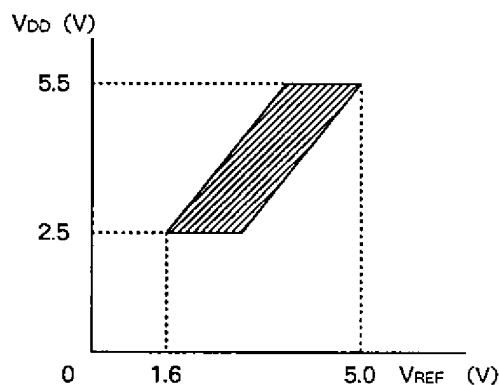

Fig. 5 Power supply voltage detection reset function chart
The graph in Fig. 5 shows the relationship between the power supply voltage VDD and reference voltage VREF of the power supply voltage detection reset function.
**Note 1)** The graph in Fig. 5 serves as guide to the function operation area obtained using average devices.